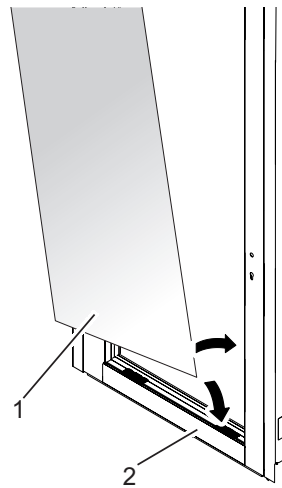

Fig. 35: Inserting the glass panel
2. Insert glass panel (Fig. 35/1) into panel (Fig. 35/2).